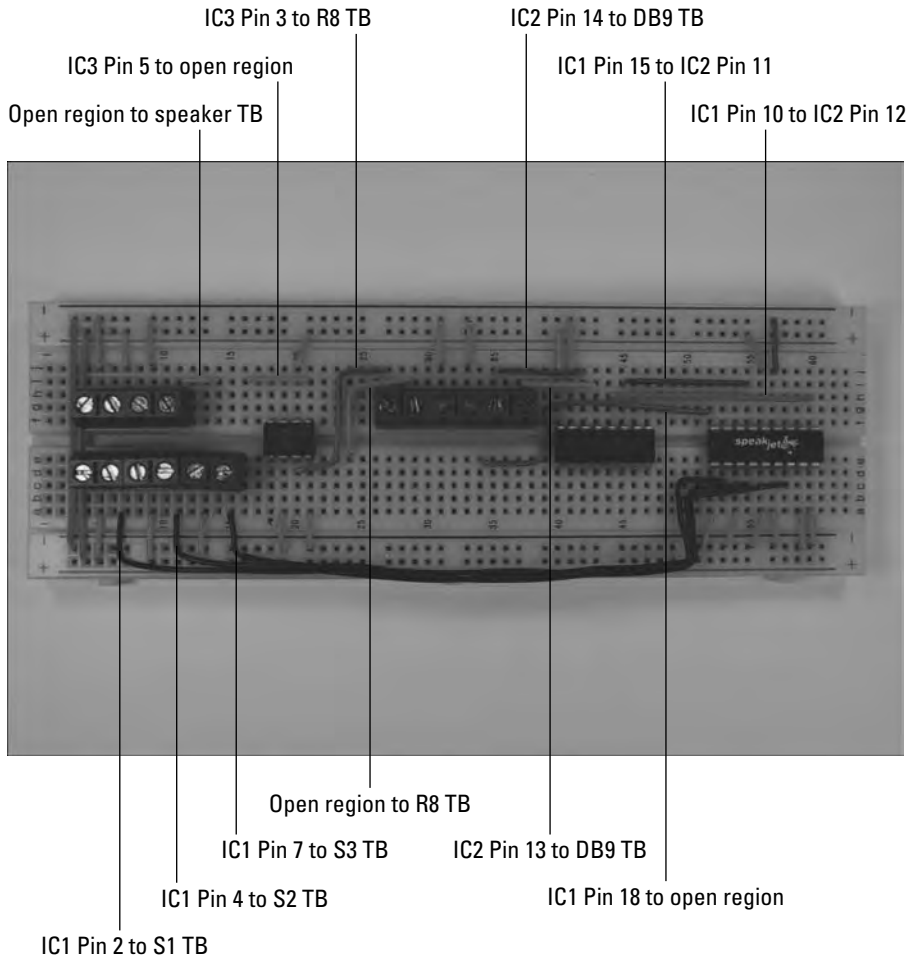

Figure 7-8: Hook up the ICs, terminal blocks (TB), and discrete components.
4. **Insert wires to connect the ICs; terminal blocks for the potentiometer (R8) and tactile switches (S1, S2, S3); and discrete components, as shown in Figure 7-8.**